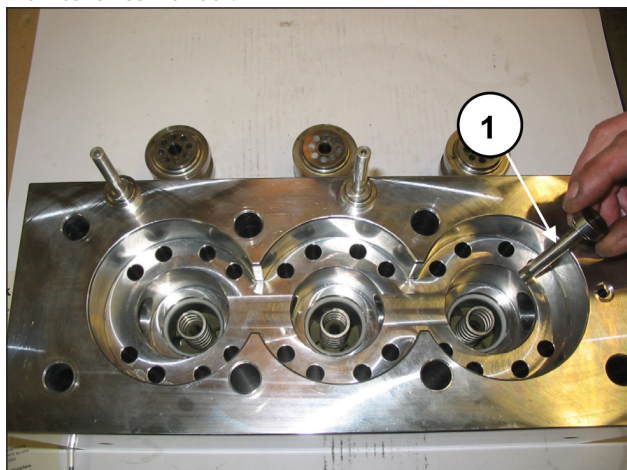
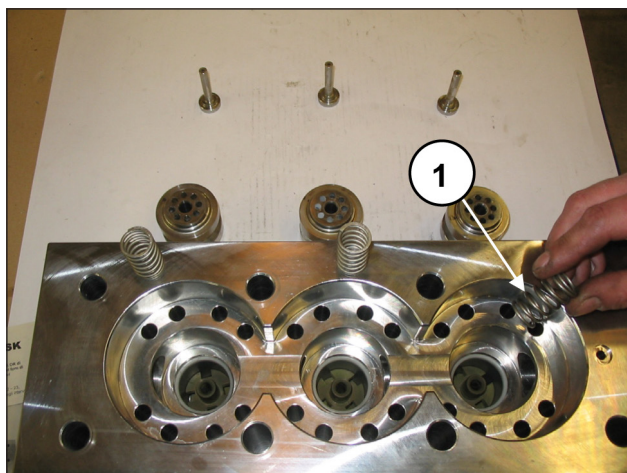
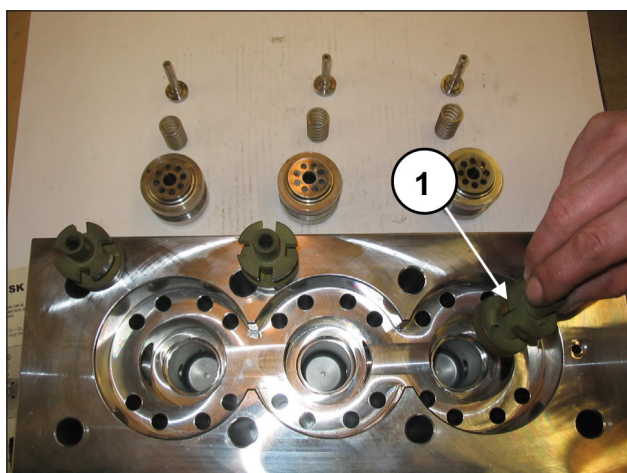

Fig. 117
Fig. 118
Fig. 119
Extract the outlet plates (pos. ①, Fig. 117), and their respective guides (pos. ①, Fig. 119), with their springs (pos. ①, Fig. 118). Check their conditions, replace if necessary and at the intervals necessary as indicated in chapter 11 in the **Use and maintenance manual**.